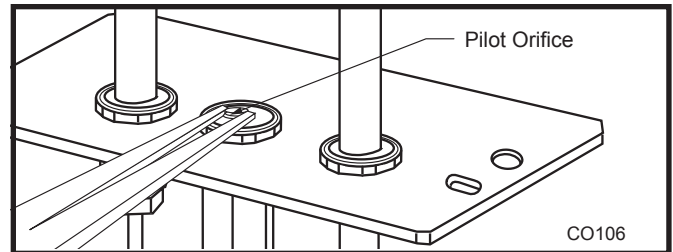

Fig. 68 Removing pilot orifice.
2. Remove pilot orifice with needlenose pliers. (Fig. 68)